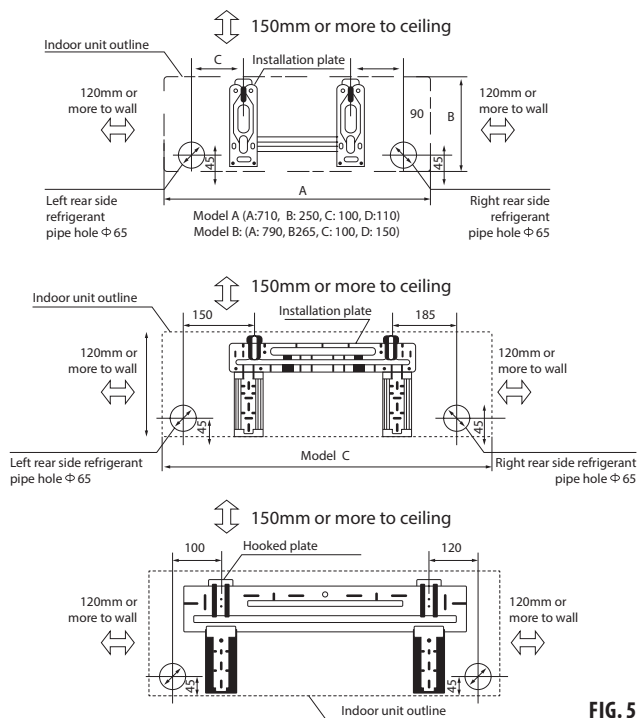

FIG. 5
- ① Determine hole positions according to the diagram detailed in Fig. 5. Drill one (1) hole (Φ65mm) slanting slightly to outdoor side.
- ② Always use wall hole conduit when drilling metal grid, metal plate or the like.